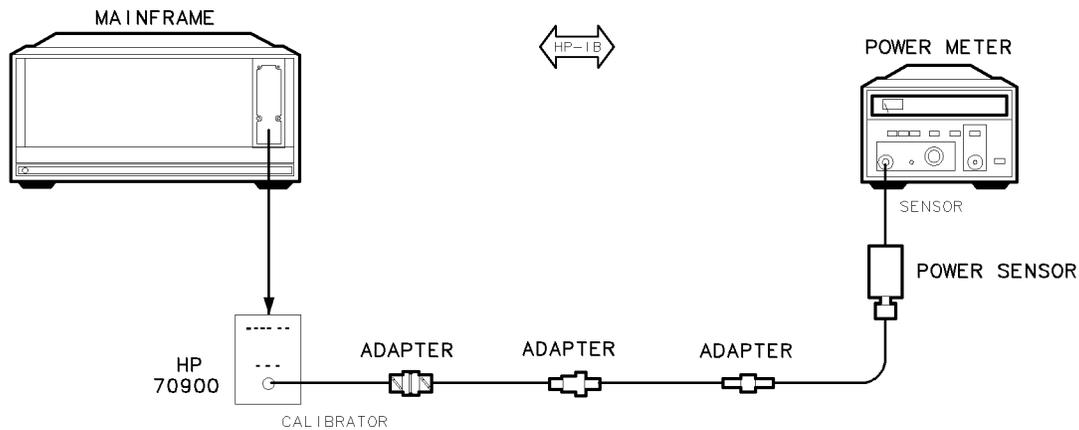

Figure 6-10. Equipment Setup for Adjustment 05. Calibrator Output Amplitude
1. Place the HP 70900B local oscillator source on a module extender and connect the equipment as illustrated in Figure 6-10.